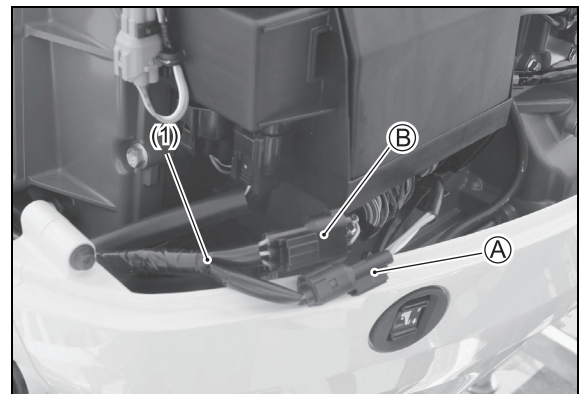
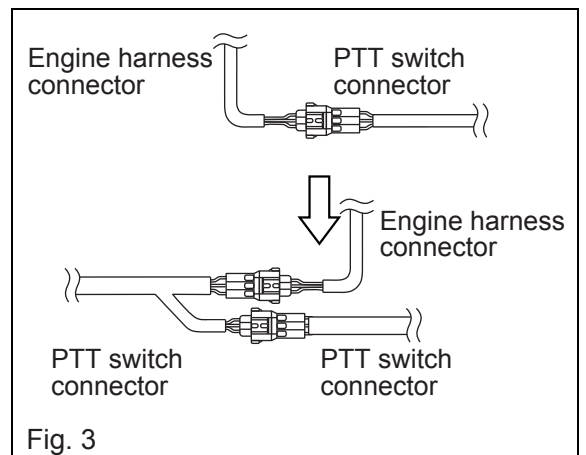

Fig. 2
Fig. 3
4. Connect the engine adapter wire (1) to the PTT switch connector (A) and the engine harness connector (B) as shown in Fig. 2 and Fig. 3.